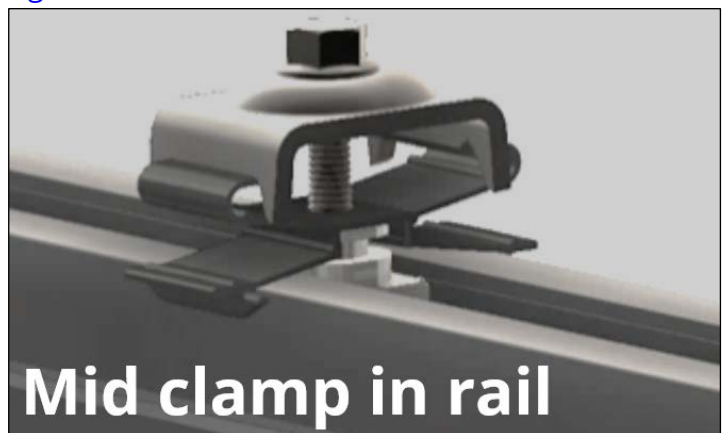

Fig. 18
5. Fit one mid clamp down into the top channel of each of the row's two rails, rotate it 90° (Fig. 18), and slide it toward the first module. Leave the two mid clamps loose for now.